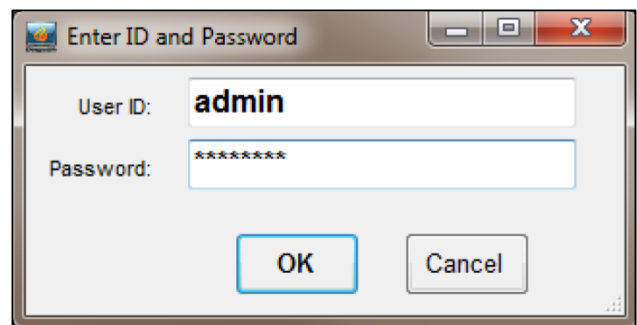

Figure 35. Log in at highest security level.
1. Log in with the highest security level: Level 4 (Figure 35). Default password: despatch